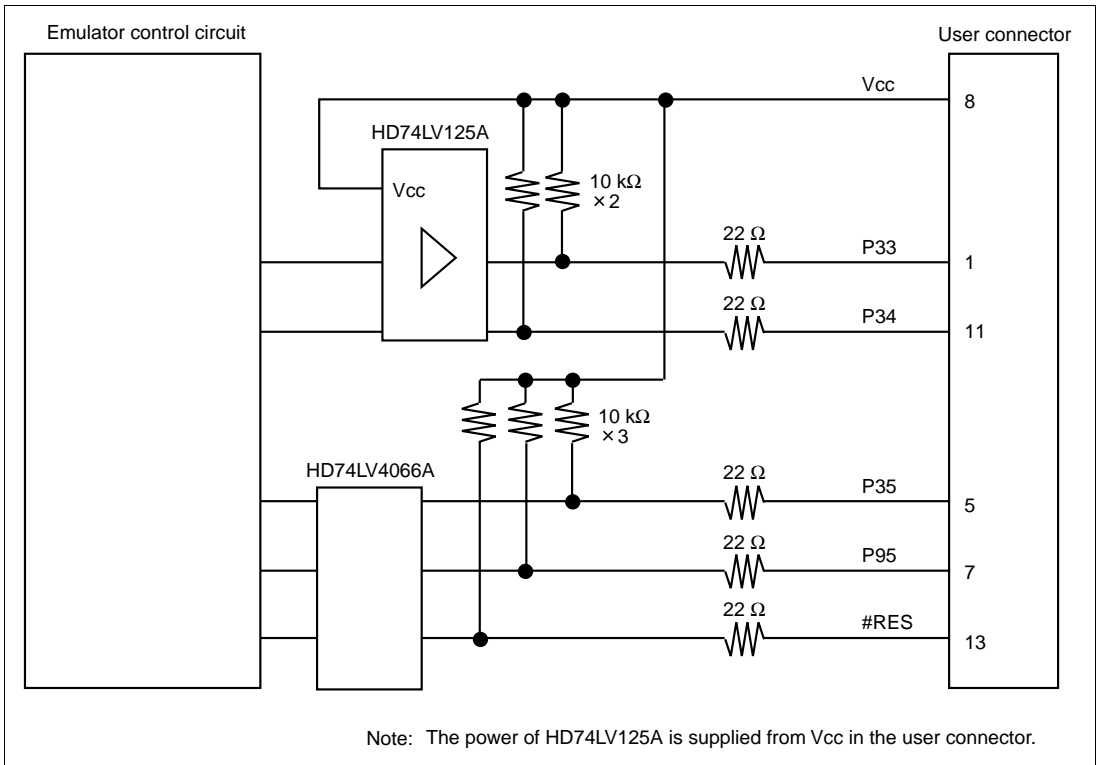

Figure 6.6 Interface Circuit in the Emulator (Reference)
7. Figure 6.6 shows the interface circuit in the emulator. Use this figure as a reference when determining the pull-up resistance value.